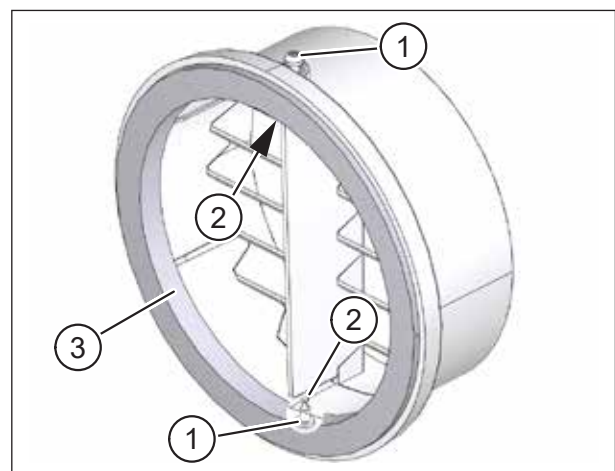

Fig. 21: Applying Vaseline
- ▶ Unscrew the two Torx screws (item 1 in Fig. 21) from the outer wall terminals until you can no longer see the tips of the screws in the holes (item 2 in Fig. 21).
- ▶ Apply the Vaseline provided to the inside of the black sealing ring (item 3 in Fig. 21) on each of the outer wall terminals.